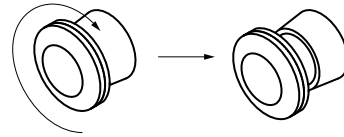

Fig. 5.2 Releasing the **E-STOP** button.
3. Make sure that the **E-STOP** button is released. If not, twist it clockwise up to the stop and release (fig. 5.2).